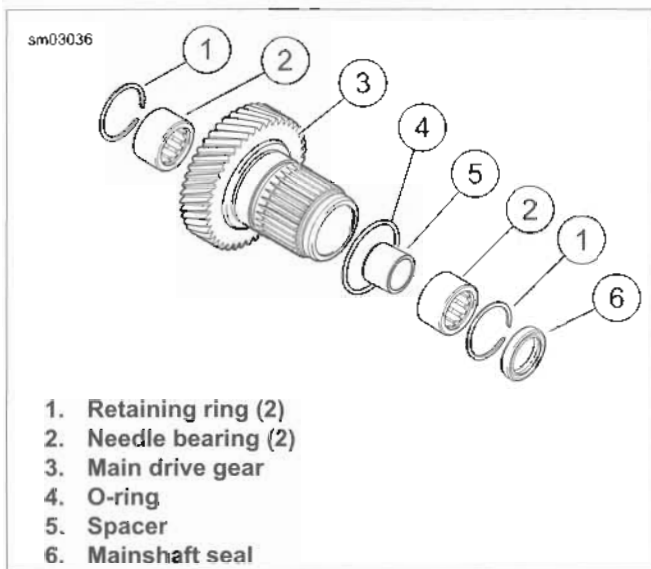

Figure 6-37. Main Drive Gear Assembly
1. See Figure 6-37. Remove mainshaft seal (6). Remove retaining rings (1), needle bearings (2) and spacer (5) from main drive gear (3). Discard retaining rings.
2. Remove and discard O-ring (4).
7. See Figure 6-37. Install new retaining rings (1).
8. Install **new** O-ring (4) into groove in main drive gear.